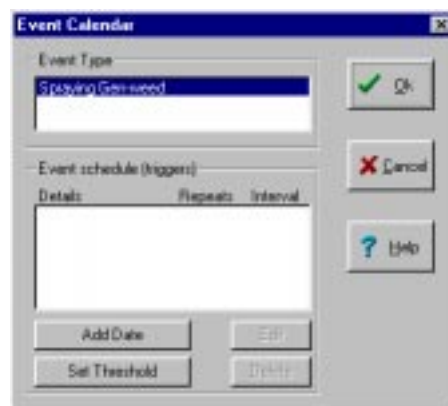

Figure 13.6 Event Calendar window
3. Select '**Initialise Module**' from the drop-down menu (figure 13.6);